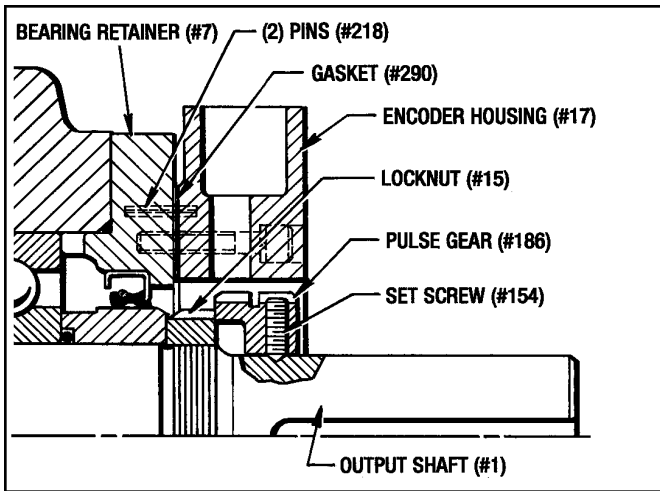

Figure 9.18 - Pulse Gear Alignment (#10 *Posidyne*)
- Slide the Pulse Gear (#186) onto the output shaft. Align the Set Screw (#154) with the drilled hole in the output shaft. Position the Pulse Gear as shown in *Figure 9.18*. Tighten Set Screw (#154).
- Place the Gasket (#290) onto the Bearing Retainer (#7) using the (2) Pins (#218) for alignment. Do not use any gasket sealant on this gasket.
- Attach the Encoder Housing (#17) to the Bearing Retainer (#7) on the output end of the *Posidyne* with (4) Screws (#76) and (4) Lockwashers (#257).